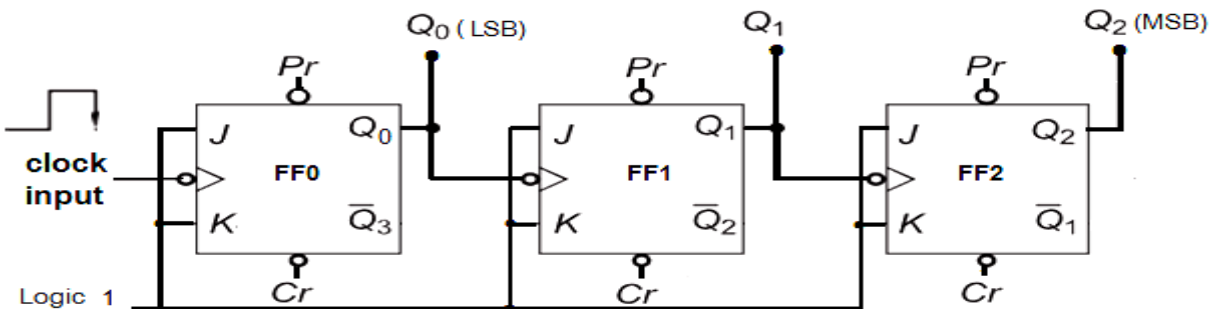

Fig. 2.20: 3-bit Asynchronous Counter
- Figure 2.20 shows a 3-bit (modulo 8) asynchronous counter using JK flip-flops.